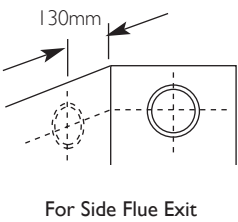

Fig. 18
4. Mark the position of the centre of the flue hole (rear exit). For side flue exit, mark as shown (Fig. 18).